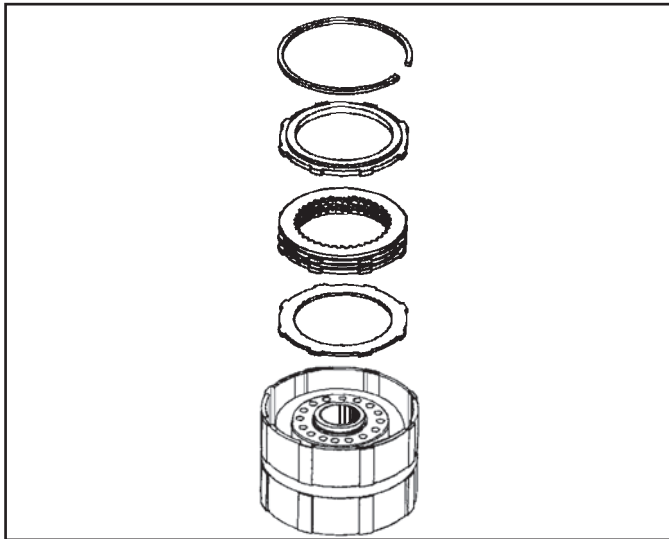

Figure 98
1. Remove the backing plate snap ring, the backing plate, the single sided clutch plates and clutch apply plate (See Figure 98).